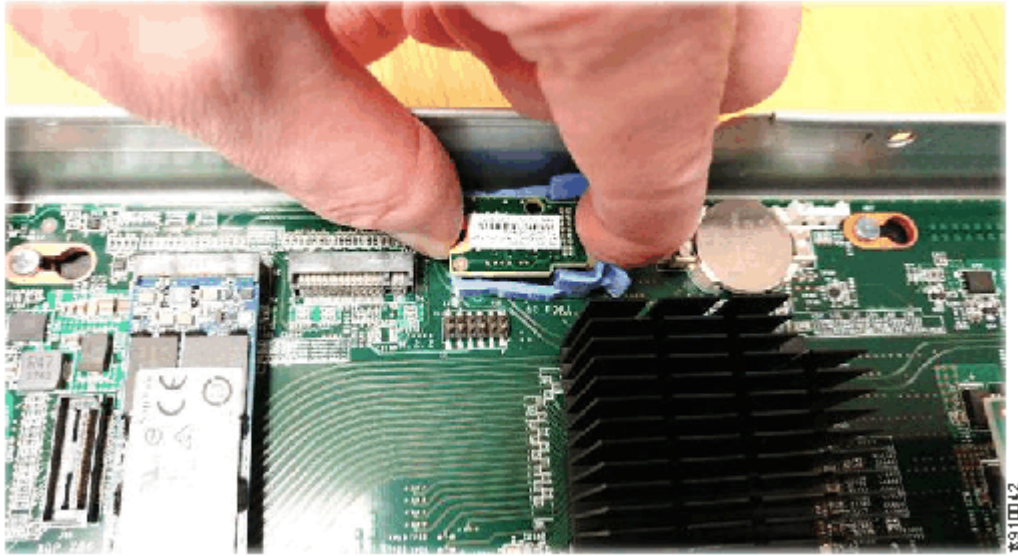

Figure 52. Removing the TPM
7. Insert your finger tip between the latches and hold the TPM between your thumb and finger, as shown in Figure 52 on page 88.